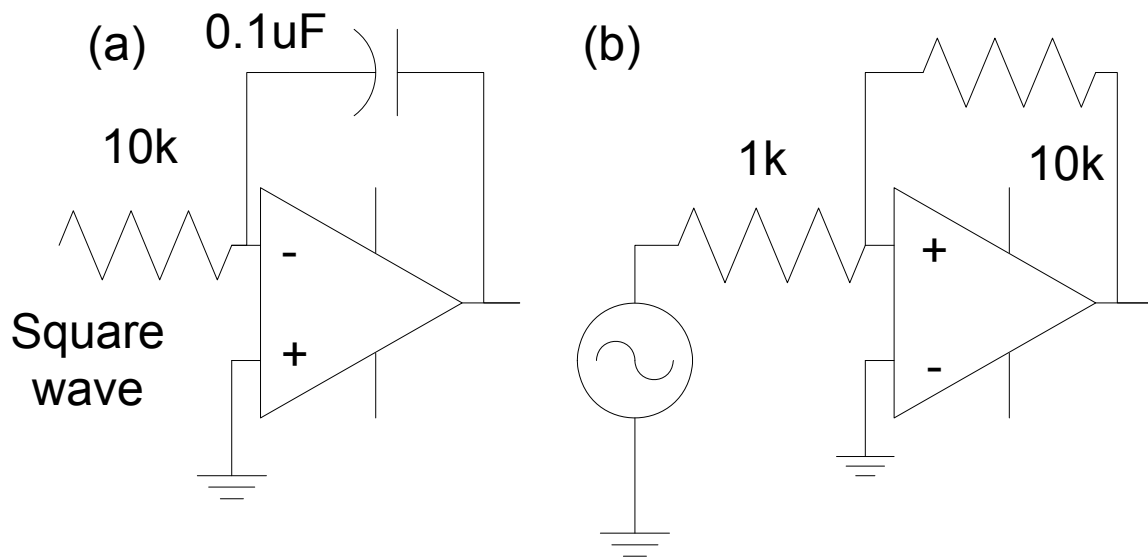

Figure 5: (a) Integrator, and (b) Schmitt trigger.
4. Build the integrator shown in Figure 5(a). Record the output waveforms for input square waves of (a) +/- 10v at 10kHz, and (b) +/-1v at 100Hz..
4. Build the Schmitt trigger circuit of Figure 5(b). Verify its performance experimentally by sketching the output waveform for a 5v pk-pk input sine wave. Note the input signal amplitudes when the output changes state.